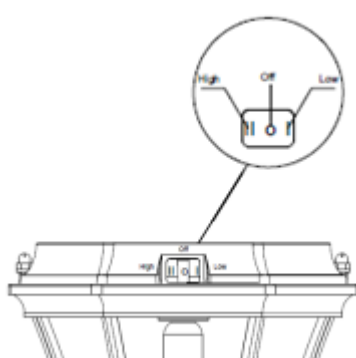

Fig. 1
1. Turn the On/Off switch in the lamp head (A) to Low or High position (Fig. 1).
2. Use electric drill to make three holes into a solid surface no smaller than the fastening screws (G). The holes shall be lined up with the holes of the lamp base (F).